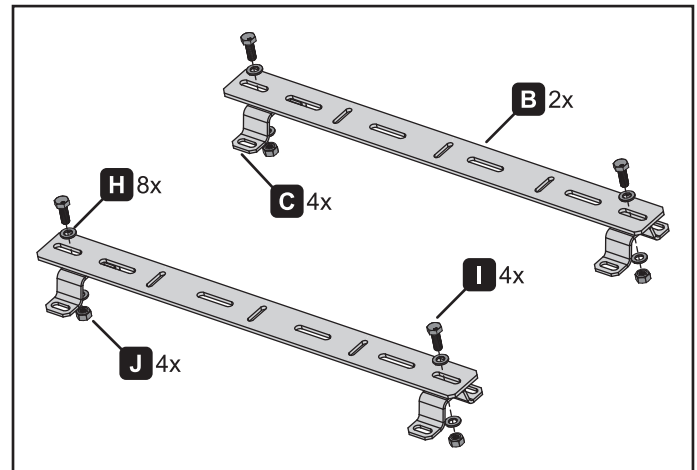

Figure 1.
4. Place the crossbars (B) in the desired location and identify the slots closest to the attachment points.
5. Loosely install the four assembly feet (C) onto the crossbars using the provided hardware (H, I, J). Do not tighten fasteners. Position the assembled crossbars with feet into the mounting location and loosely reinstall the factory hardware to hold the assembly in place (figure 1).